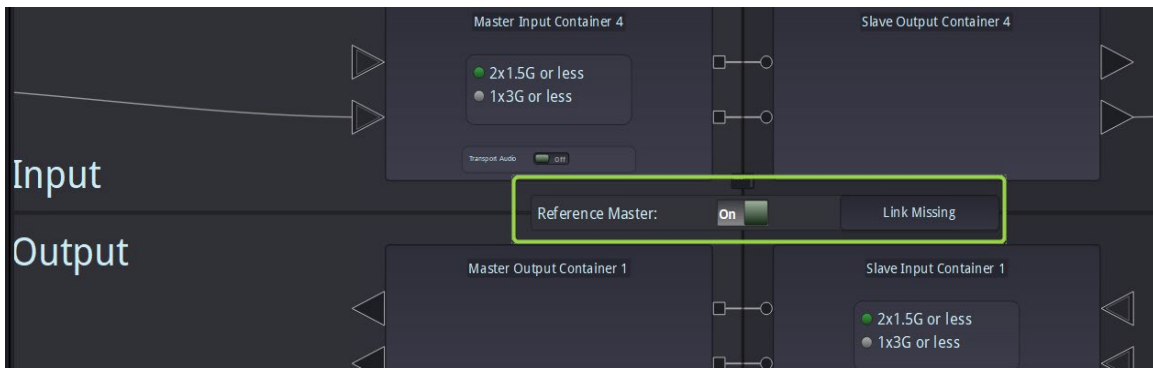

Fig. 1: Reference Master Switch
4. Zoom in and set the parameter "Reference Master" to "ON" as shown in Fig.1
2. Select the GreenMachine set as reference Master (Fig.1)